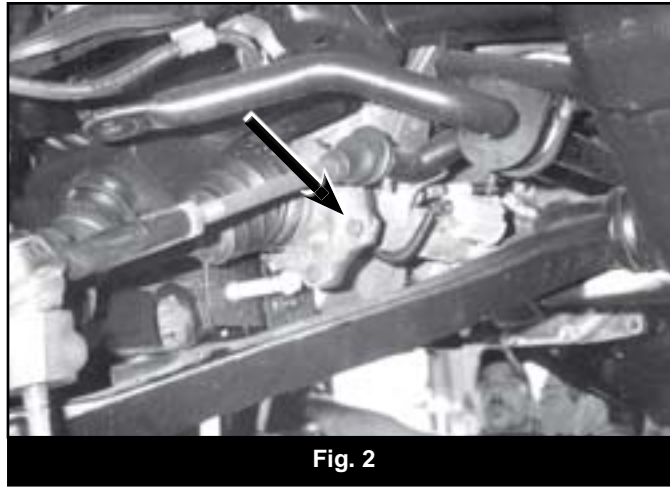

Fig. 2
15. Disconnect CV axles from the differential by removing the six mounting bolts (Fig 2). Remove the axles from the vehicle. Inspect the CV boots at this time. If they are damaged then replace them according to OE specifications.